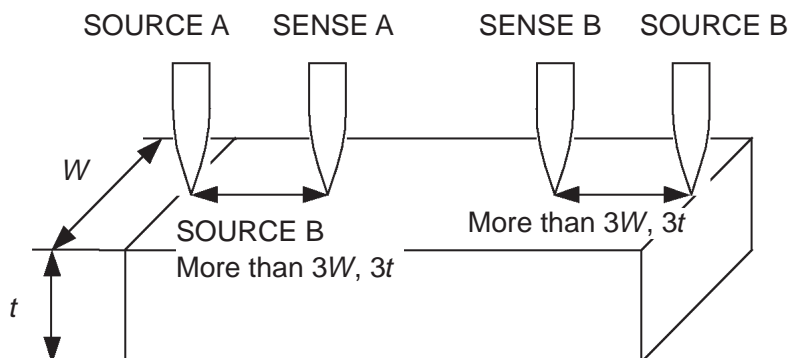

Fig. 9 Probe positions on wider/thicker measurement target
To avoid the effects of this phenomenon, it is recommended to detect the voltage inside of current applying points. Generally, when the voltage detection point is further inside the current application point than the measurement target width (W) and thickness (t), current distribution may be considered uniform. As shown in Fig. 9, SENSE terminals should be $3W$ or $3t$ mm or more inside from the SOURCE terminals.